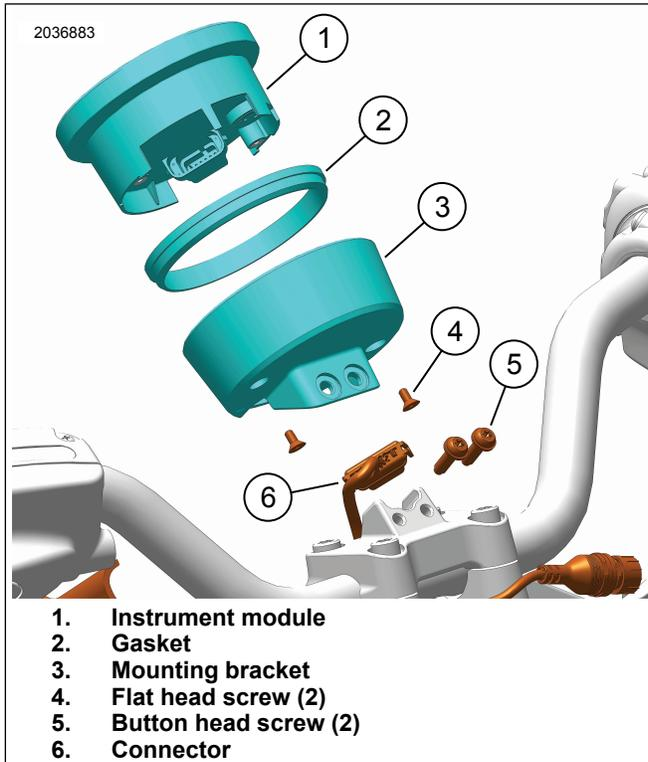

Figure 3. Round Gauge
1. See Figure 3. Remove two button head screws (5).
2. Remove two flat head screws (4).
3. Remove IM (1) from mounting bracket (3).
4. Disconnect wire harness connector (6).
5. Remove gasket (2). Replace if needed.
2. See Figure 3. Assemble IM, gasket and mounting bracket.
- a. Install gasket (2) on IM (1).
- b. Route wire harness connector (6) through back of mounting bracket (3).
- c. Connect wire harness connector (6) to IM.
- d. Install IM (1) assembly into mounting bracket (3).
- e. Install two flat head screws (4). Tighten.